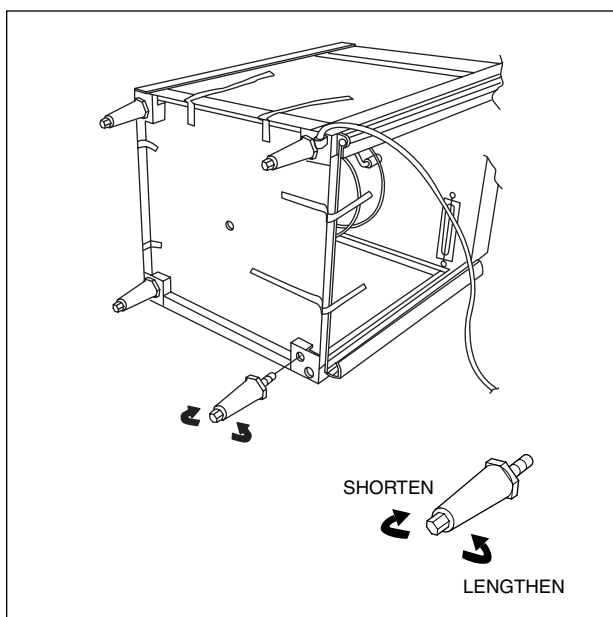

Figure 9. Installation of Adjustable Legs
To install the 4" (10 cm) appliance legs, place the unit on its side. Be sure to secure all glass with tape. Remove the four (4) 1" (2.5 cm) metal screw type feet. Screw the 4" (10 cm) legs into the holes provided. After all the legs are tightened, return the unit to its upright position. If the unit is not level or rocks, turn the adjustable tip of the appropriate leg to correct the condition. See Figure 9.